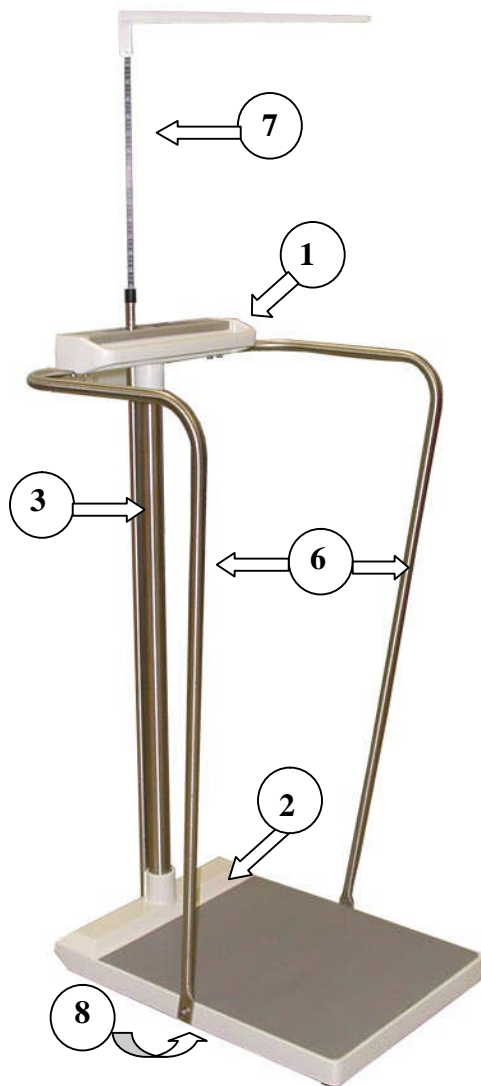

Figure 1: Assembly Diagram
| Figure 1: Assembly Diagram | 4 |
STEP 2: (Figure 1) Verify that the serial number on the Display Unit (1) matches that on the Base Assembly (2).
STEP 3: Remove the four (4) set screws from Base Assembly collar and apply a small amount of Loctite® to each. Insert Mast (3) into Base Assembly collar and seat firmly. Re-install set screws in Base Assembly collar and tighten securely.
STEP 5: Remove the set screws from the Display Unit collar. Set the Display Unit squarely on top of the Mast with the display label facing the scale platform. Apply a small amount of Loctite® to the four (4) set screws and reinstall the set screws, tightening securely.